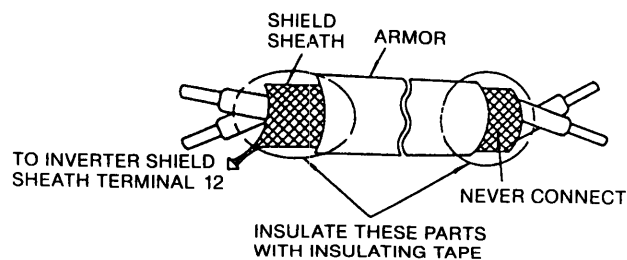

Fig. 4 Shielded Wire Termination
(2) Control circuit leads 9, 10, 18, 19, 20 (contact output) must be separated from leads 1 to 8, 11 to 17, 21, 22 and 25 to 27.
(3) Use twisted shielded or twisted-pair shielded wire for the control circuit line and connect the shield sheath to the inverter terminal 12. See Fig. 4. Wiring distance should be less than 164 ft (50 m).